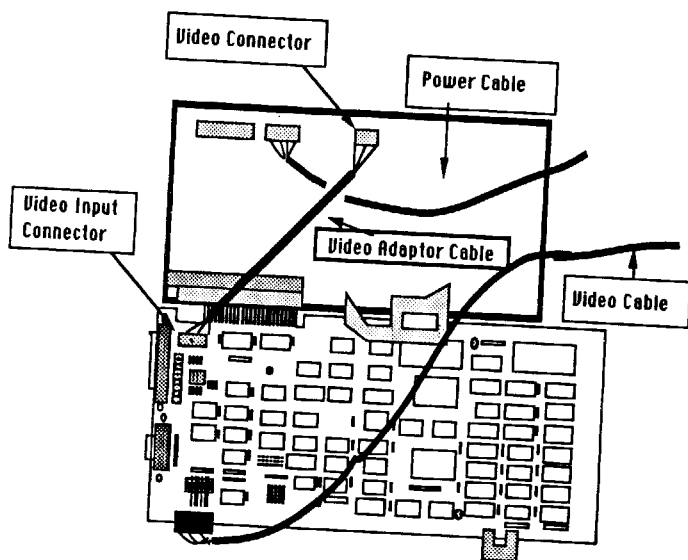

Figure 7
3. Get the Video Adaptor Cable (see diagram of equipment above) and connect it between the main board Video Connector and **J4** (Video Input Connector) on the Trackstar board, as shown below. Be careful of the polarizations of the connectors: they can be connected only one way. See Figure 7